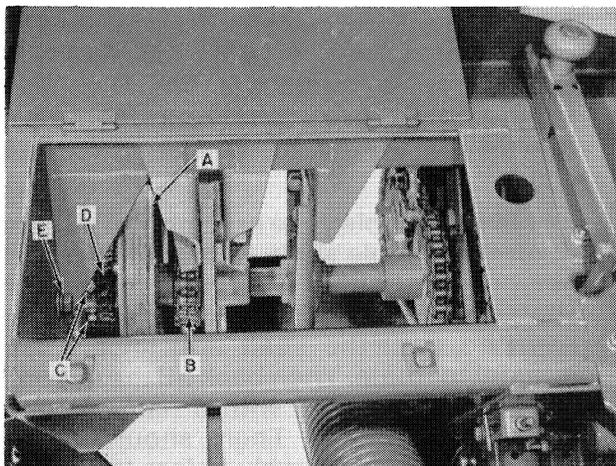
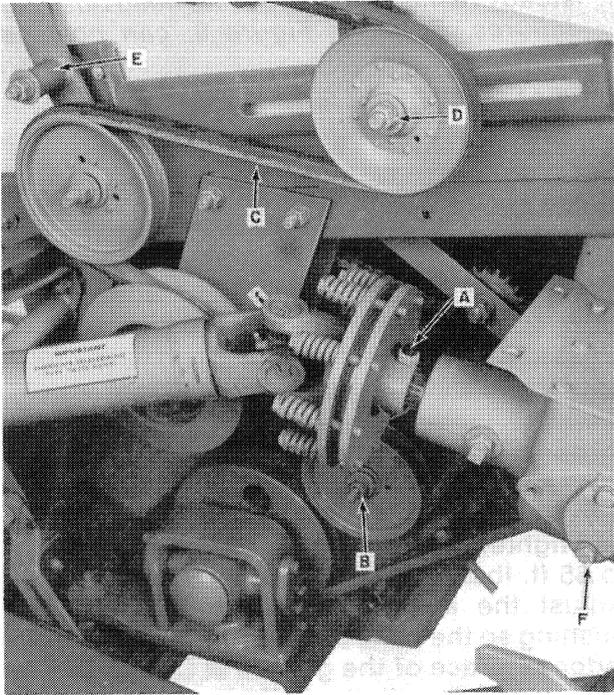

FIGURE 2
FIGURE 9
2. Remove belt from drive sheave, A, Figure 2, and wobble sheave.
2. Loosen jam nut and set screw at A, Figure 9, and remove slip clutch assembly from input shaft.
3. Loosen sickle drive belt idler, B, Figure 9, and slip belt off drive sheave, A, Figure 2.
4. Remove the coupler chain, B, Figure 2.
5. Loosen the tension on the reel drive chain, D, Figure 2, and disconnect the chain at the connecting link.
6. Remove the set screws, C, Figure 2, from the reel drive sprocket.
1. Remove the PTO cover as shown in Figure 9.
5. Fill gearbox with API GL5 80W-90 multi-purpose gear lubricant to bottom hole of bearing cap, F, Figure 9. Install cover and clip (if 1000 RPM).
1. Attach the gearbox assembly to the mower-conditioner with the four bolts, E, Figure 2.
2. Align the sickle drive belt driver sheave, A, Figure 2, with the wobble sheave to within $\frac{1}{8}$ " (3 mm). Tighten set screws, C, to 48 ft. lbs. (65 N·m). Hammer seat the set screws and re-torque them again. Tighten jam nuts.
5. Install coupler chain, B, Figure 2.
6. Install slip clutch assembly on input shaft. Tighten set screw, A, Figure 9, and jam nut.
1. Loosen the tension on the reel drive chain, D, Figure 2, and disconnect chain at attaching link.
2. Remove the reel drive belt, C, Figure 9.
6. Install reel drive belt and move idler arm, E, Figure 9, forward as far as possible. Move stationary idler, D, rearward and tighten nut.